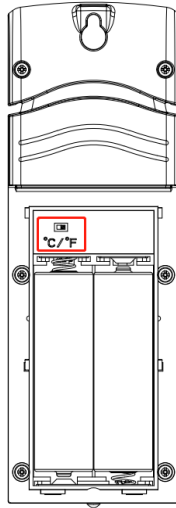

Figure 8a
3. This sensor is also capable of displaying in Celsius or Fahrenheit by using the switch under the battery door. As shown in Figure 8a.